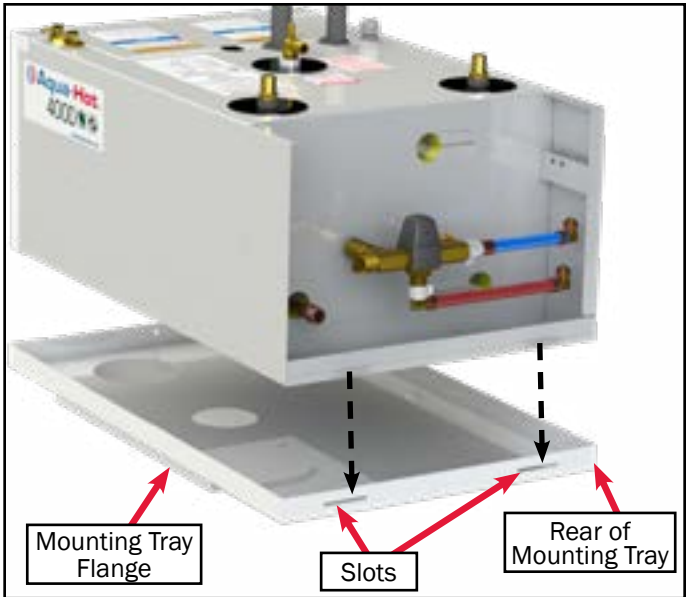

Figure 10
6. Place the Aqua-Hot securely into the mounting tray to ensure that the unit does not move or shift under normal operating conditions. Reference Figure 10.